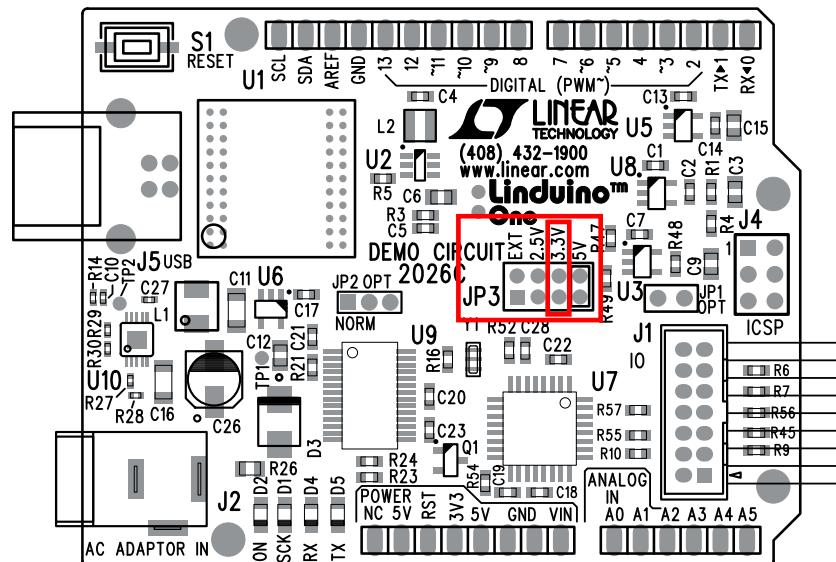

Figure 1. DC2026C Voltage Setting
1. Set the DC2026C JP3 link to 3.3V as shown in Figure 1.